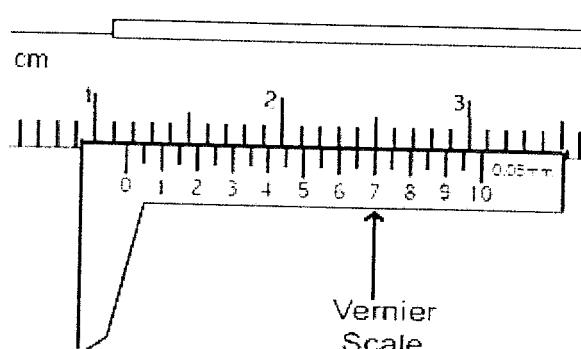

Figure 1b(i) /Rajah 1b(i)
- (b) i. State the reading of vernier caliper at Figure 1b (i)